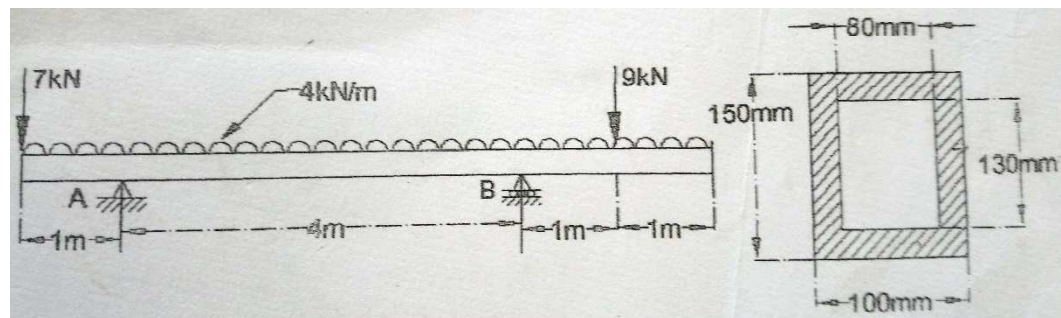

Fig Q3 (b)
- b) A beam of length 7 m is simply supported at two positions, one at 1m from the left hand and the other at 2 m from the right hand end as shown in Fig Q3 (b). The cross-section of the beam is a hollow rectangle as shown. The beam is subjected to a uniformly distributed load including its own weight of intensity 4 kN/m over its entire length, together with concentrated loads of 7 kN at the left hand end and 9 kN at 1m from the right hand end. Draw the shear force and bending moment diagram and use them to determine: